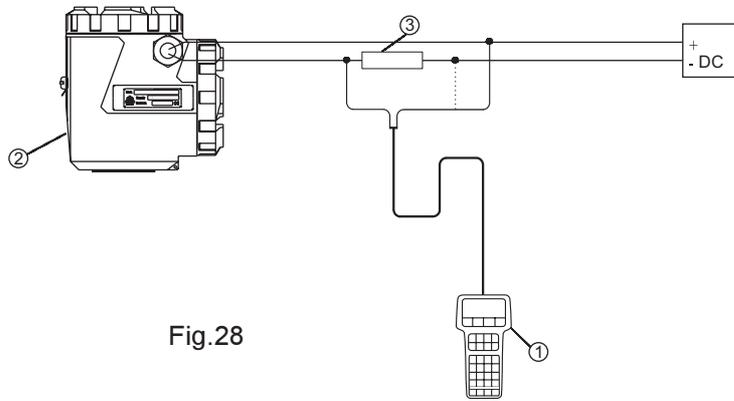

Fig.28
6.3.3 Connection by HART programmer (fig.28)